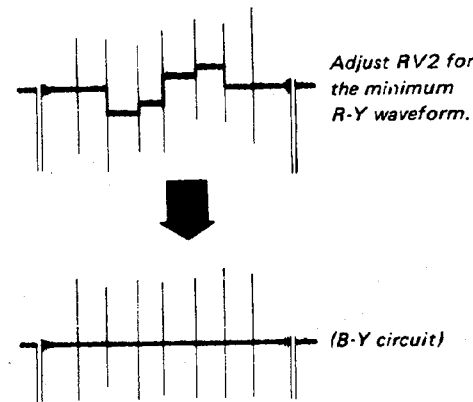

Fig. 11-2
4. Set the oscilloscope sensitivity to 20mV/DIV, and adjust RV2 on the BC board so that the output waveform is flat. (See Fig. 11-2.)